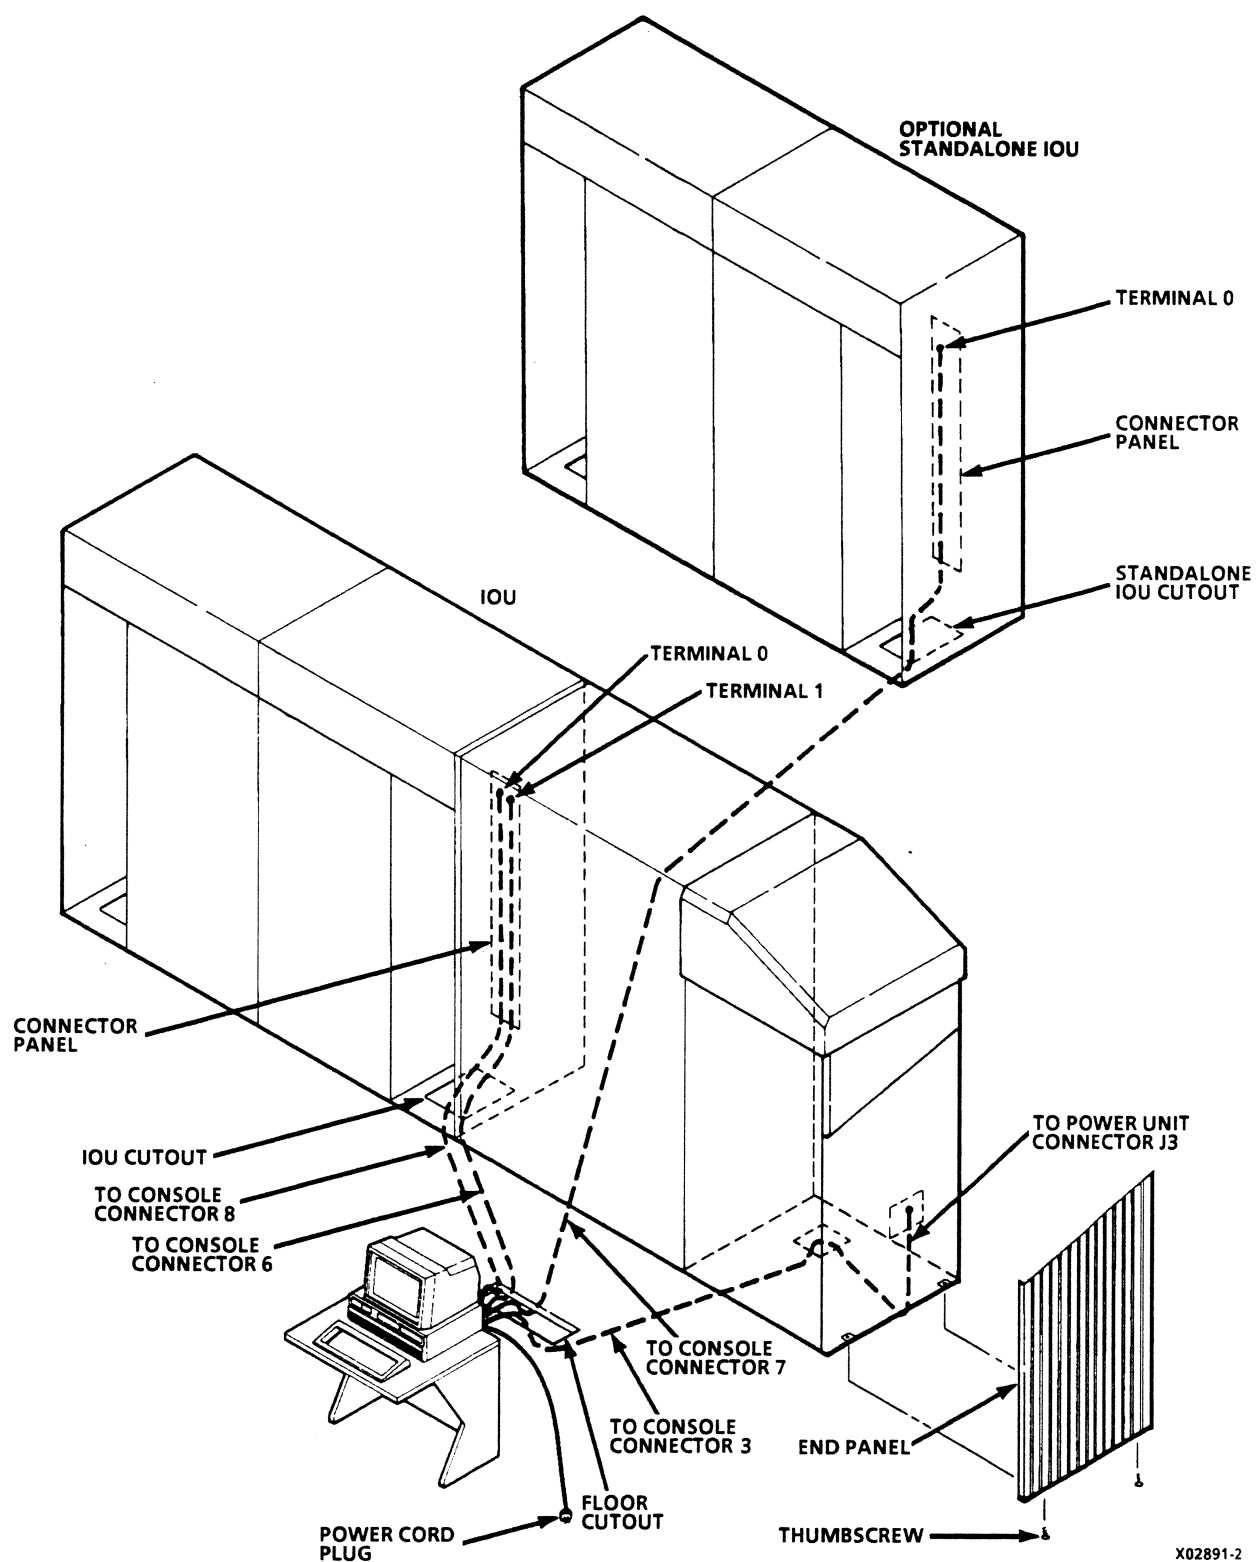

Figure 2-37. System Console Installation
- ___ c. Place system console cables under raised floor and through floor and unit cutouts as shown in figure 2-37.